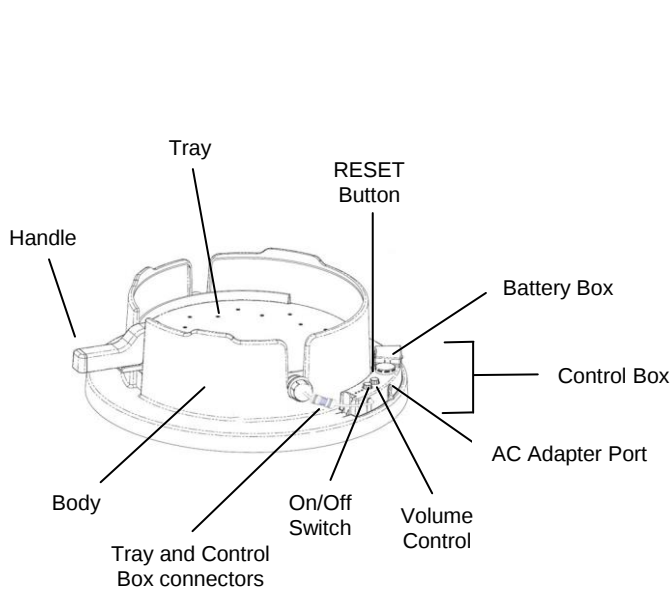

Figure 1
1. **Charge the Battery** – Unless your control box is wall mounted and permanently connected to an electricity source, we recommend you establish a charging location, such as the manager's office, which is free from moisture, and charge the battery once a day. Plug the A/C adapter into the charging port (see Fig. 1 for location of AC Adapter Port) and then into a 110V electrical outlet. Turn the knob on the control box to the CHARGE position. The red LED light will come on and start flashing, indicating that the battery is charging. Once the battery is fully charged, the red LED light will stop flashing and go off. The green light will come on.